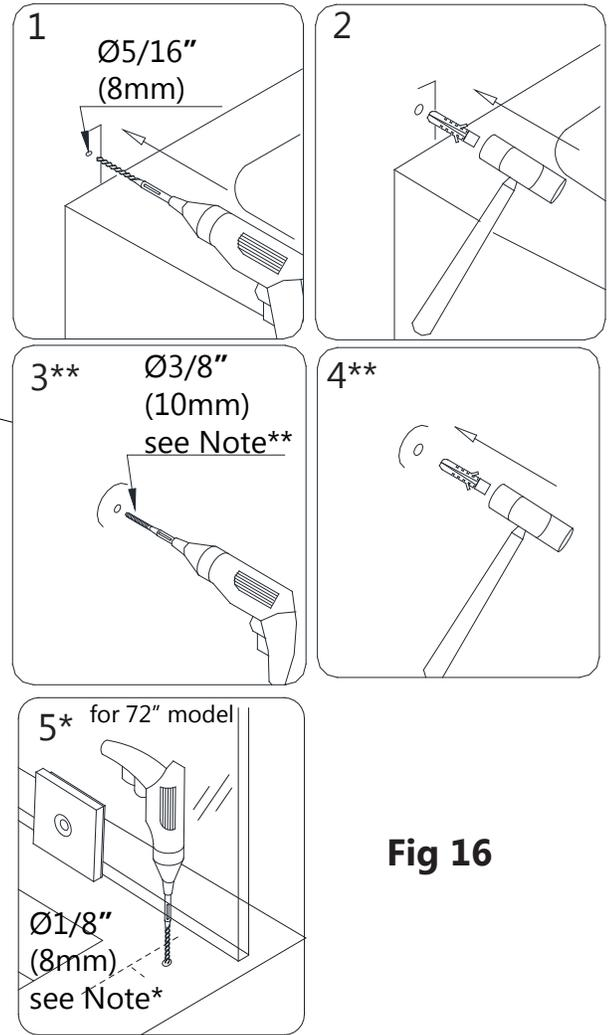

Fig 16
****If installing into a stud (recommended), drill a Ø1/4" hole and do not use the wall anchors (see note above).** (Fig 16)